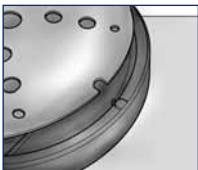

Fig. 17
- Refit the grille (6) by placing one of the alignment holes level with the tab on the drip tray (Fig. 17).